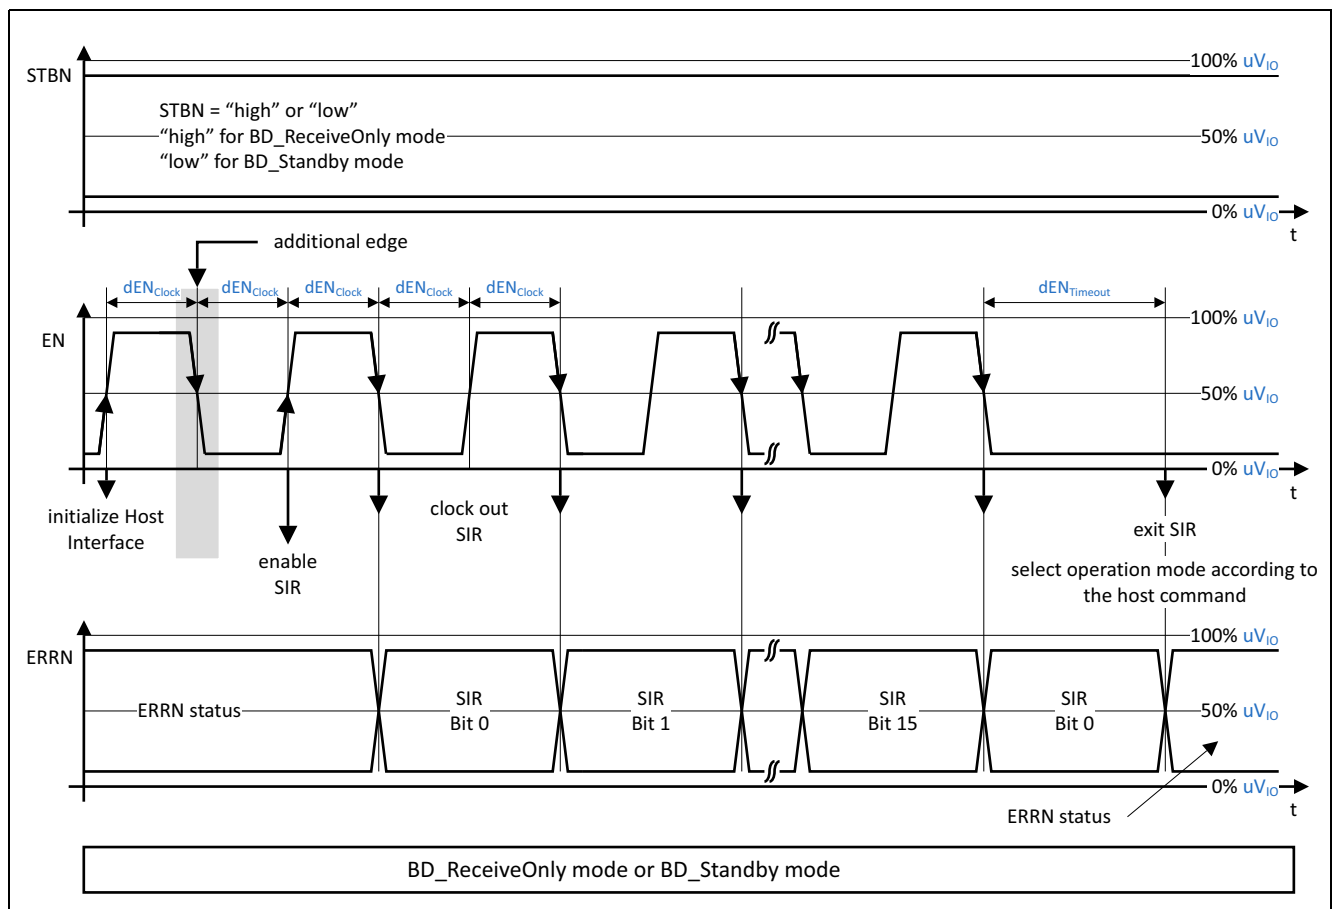

Figure 6 SIR readout in BD_ReceiveOnly or BD_Standby mode
During the SIR readout, the EN input acts as the clock and the ERRN output pin acts as the serial “data_out”. Irrespective of the digital signal at the STBN input, the SIR readout is always initialized by a signal change at the EN input pin. When the host command BD_Normal is applied to the Host Interface, the SIR read-out starts with the falling edge at the EN input (see Figure 5). For the host commands BD_Standby and BD_ReceiveOnly the read-out starts with the rising edge at the EN pin (see Figure 6).
- 1) While the TLE9221SX is in BD_Normal mode, the rising edge is the first signal change after initialization and enables the SIR readout. For the BD_ReceiveOnly and the BD_Standby mode, there is an additional falling edge between initialization and the SIR being enabled (compare with Figure 5 and Figure 6).